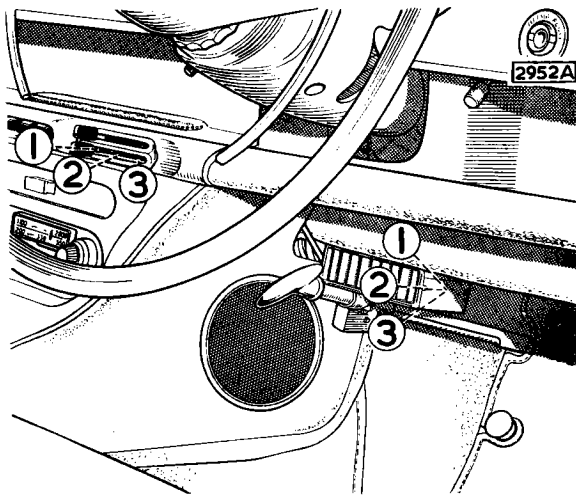

Fig. 1. The front outlet.
The two front outlets (A, Fig. 4) are fitted with direction controls. In the centre position (2, Fig. 1) the air is completely shut off; in the "up" position (1) the air is directed to the body and in the "down" position (3) to the feet.